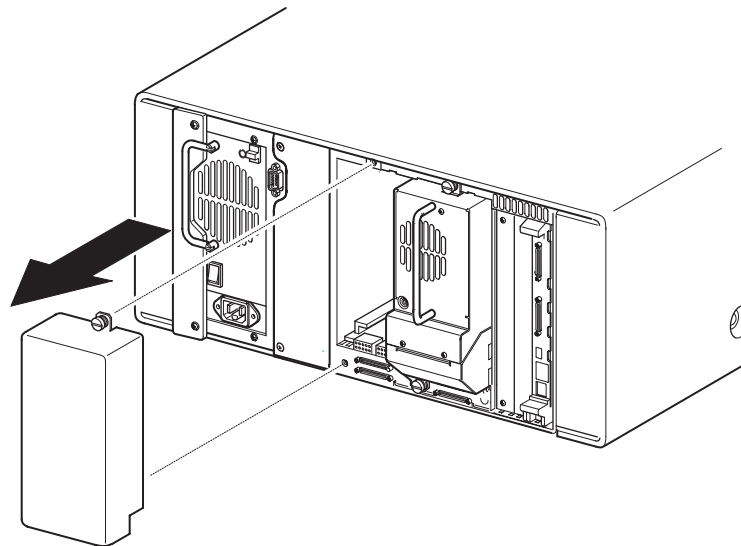

Figure 62. Removing tape-drive blank panel
2. Remove the blank panel that covers the appropriate tape-drive mounting bay as shown in Figure 62. Save the blank panel for future use.